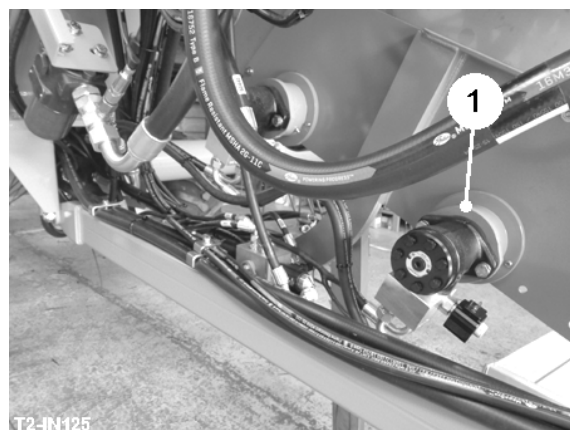

Fig 10
Three rotary agitator shafts (item 1, fig. 10) are fitted inside the sieving web. These are designed to separate the soil from the crop as it is elevated up the web. Drive for each agitator shaft is by a directly coupled hydraulic motor fitted with a bypass valve.